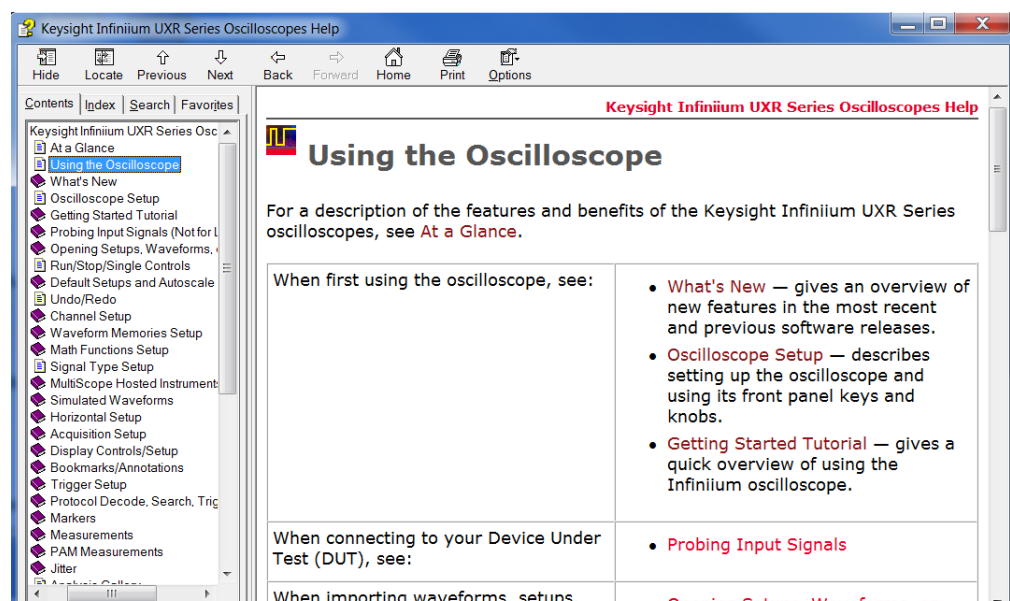

Figure 26 Online Help home page
- Choose **Help > Help Contents...** from the main menu to open the online help home page (**Figure 26**).